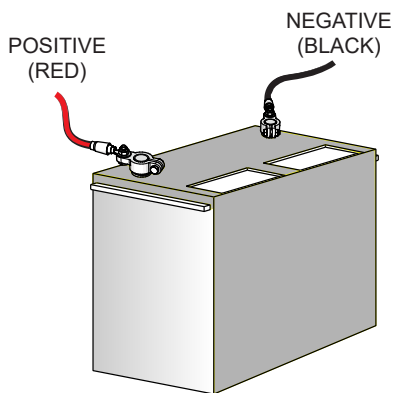

Figure 6. Battery Connections
The **12-volt DC battery** (Figure 6) is shipped wet and ready to use. The battery type used with this pump is BCI Group 24 (CCA: 550).
2. **ALWAYS** make sure the battery cables are properly connected to the battery terminals as shown in Figure 6.